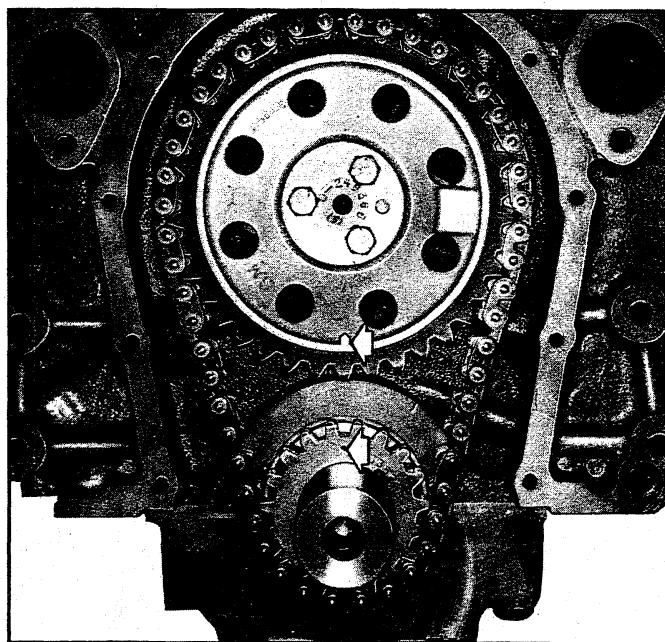

Fig. 20V - Timing Sprocket Marks
2. Crank engine until marks on camshaft and crankshaft sprockets are in alignment (fig. 20V).
6. Install timing chain on camshaft sprocket. Hold the sprocket vertical with the chain hanging below, and orient to align marks on camshaft and crankshaft sprockets (fig. 20V).
2. Install timing chain on camshaft sprocket. Hold the sprocket vertical with the chain hanging down, and orient to align marks on camshaft and crankshaft sprockets. Refer to Figure 20V.